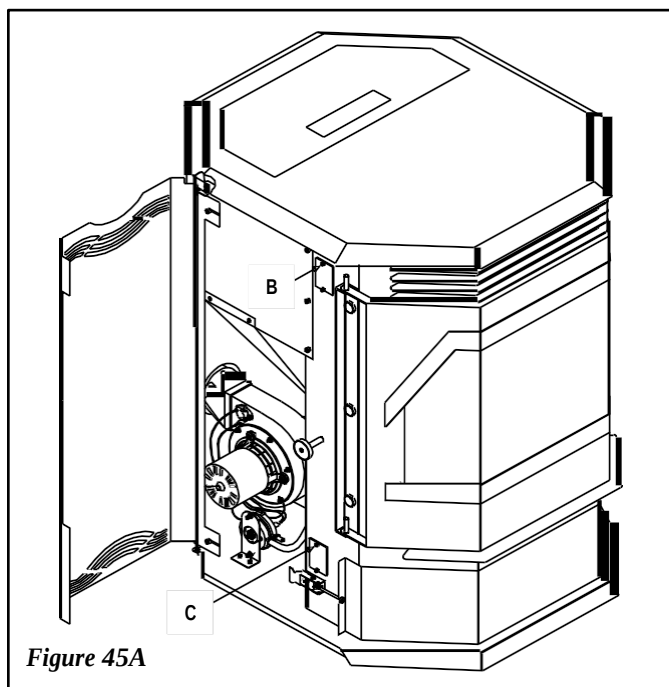

Figure 45A
Inspect the condition of the rope gasket around the door, window and ash drawer, periodically, and replace if necessary. Inspect the die-cut gaskets on the access covers (B and C in *Figure 45A*) and replace if necessary.
1. Open both the right and left side door to locate side clean-out covers (see B and C in *Figure 45A*).
2. There is one upper and one lower, 1" x 2", clean-out covers on both the left and right sides (see B and C in *Figures 45A, 45B and 45C*).